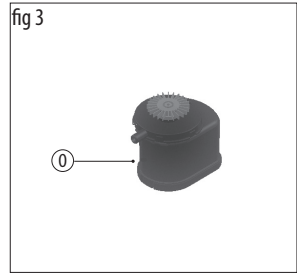

fig 4
- Position the shaft (M) in the fitting in the impeller cover (H) –fig.4